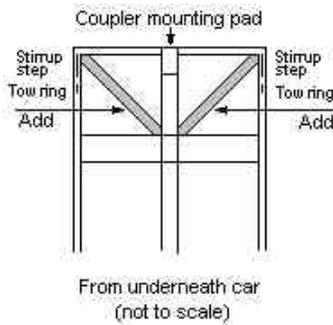

Figure 6. Frame modifications.
11. Add the diagonal frame members (see Figure 6) made of .015 x .080 styrene.
12. Add the stirrup steps (see Figure 6). I didn't have the right ones on hand, but I've listed the correct part in the parts list. I intend to change mine before I finish the car.
13. Near each stirrup step is a "towing ring" (see Figure 6). I made mine from the "ears" cut off the top of a Kadee #5 coupler box. I can't take credit for this method, though, because I saw it in a magazine somewhere.